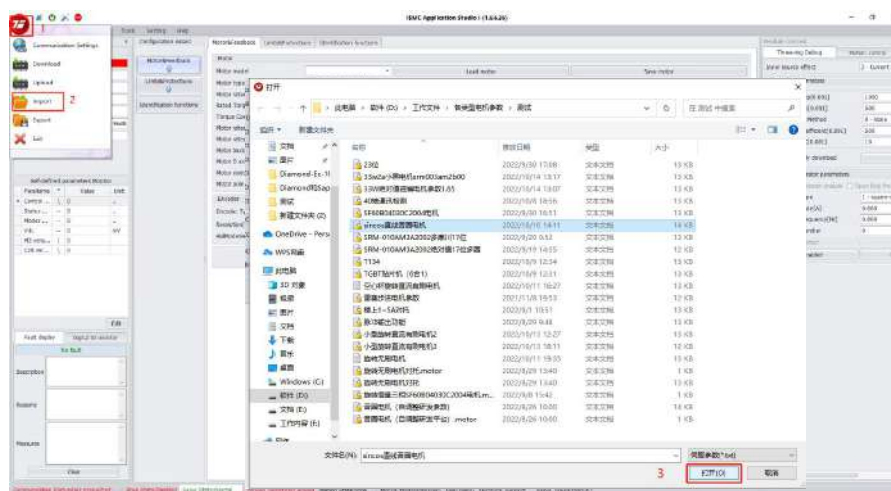

Figure 4-1 Import from file
- ①Verify that the servo drive and ISMC are communicating properly.
- ②Select the main menu , in its submenu of **"Parameter Operations"**, click **"Import"** to open the local folder, as shown in Figure 4-1.